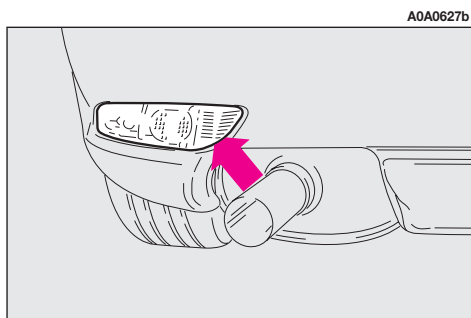
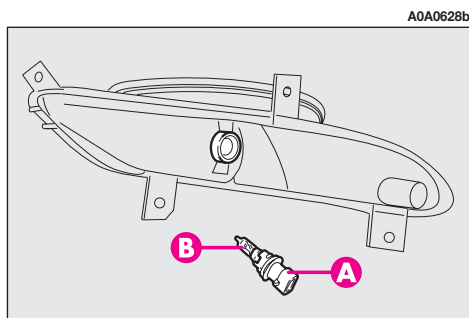

fig. 31
fig. 32
- from the bumper lower side (**fig. 31**), operate on the bulb holder (**A-fig 32**) turning it counter-clockwise and remove it. Take care not to get burnt if the muffler is still hot;